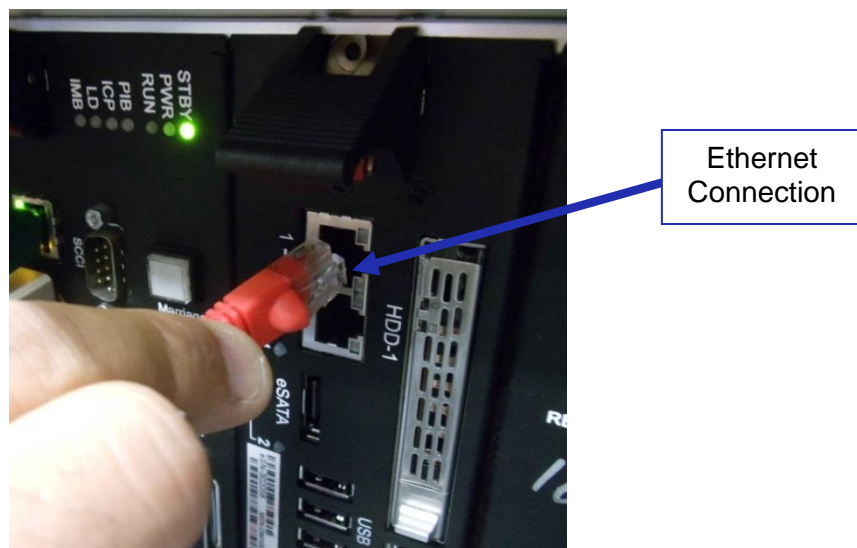

Figure 76: Ethernet Connection
- Connect an Ethernet cable to the Ethernet connector on the IMS1000 and the other end of the cable to either a laptop or network switch (Figure 76). Install a ferrite core clamp near the connector closest to the IMS1000. Refer to Section 25 for more information on ferrite core clamp installation.